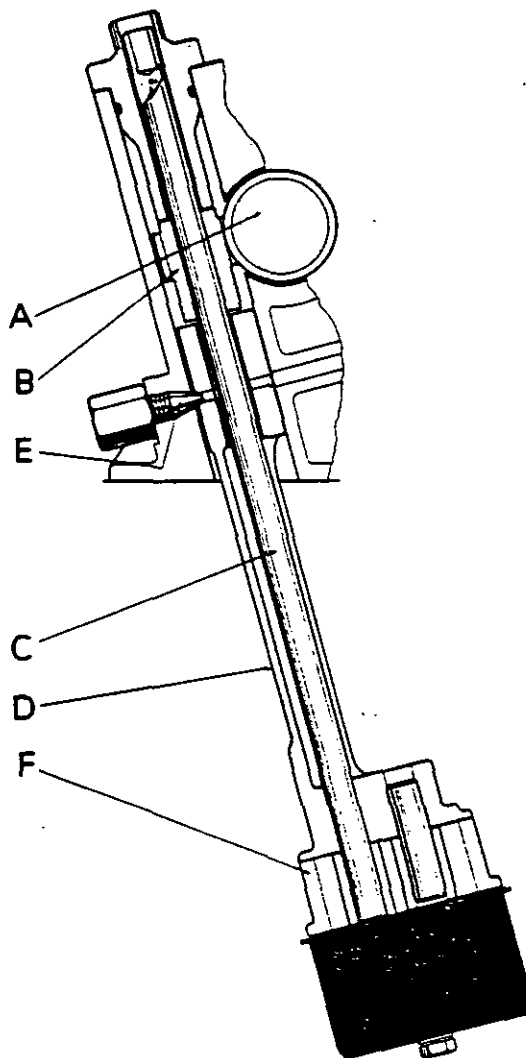

Figure 47. OIL PUMP DRIVE
2. Disconnect outlet pipe from pump to cylinder block. (Fig. 47.)